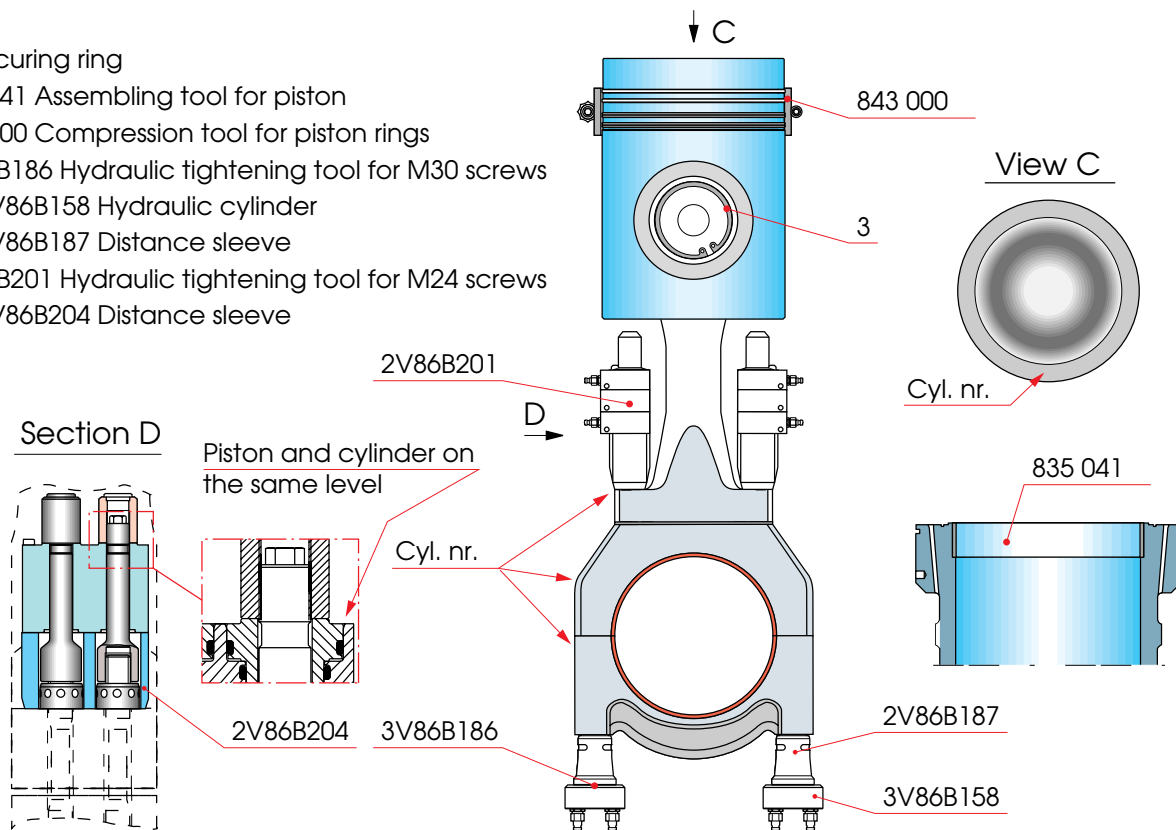

Fig 11-9
- 5 Lift the hydraulic cylinders** into position and mount the strap nuts, see Fig 11-9.
- 7 Open the release valve** and tighten the tool assembly to expel possible oil until the piston and cylinder are on the same level, see Fig 11-9. **This is very important as the effective stroke of the pistons is limited and due to that there is a great risk for insufficient tightening of the nuts, which may cause serious engine damage.** Open the nuts about half a revolution (180°).
1 Lubricate the gudgeon pin, and mount it from the same side from where it was removed, with the end marked with the drawing number in the same direction. The cylinder number is stamped on the piston crown and connecting rod, Fig 11-9. When changing the piston, mark the new piston with the same cylinder number in the same place as on the replaced one.